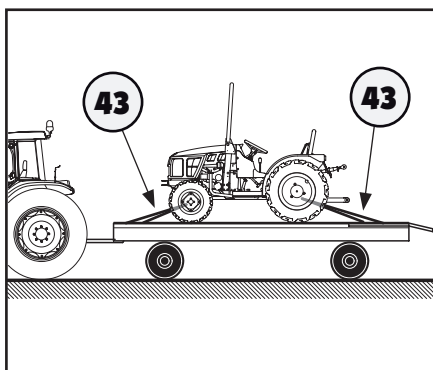

Fig. 5.53
Once the tractor has been loaded onto a suitable means of transport, secure it with suitable anchoring belts or chains (43). The axles are the best places on the tractor to secure belts or chains (Fig. 5.53).